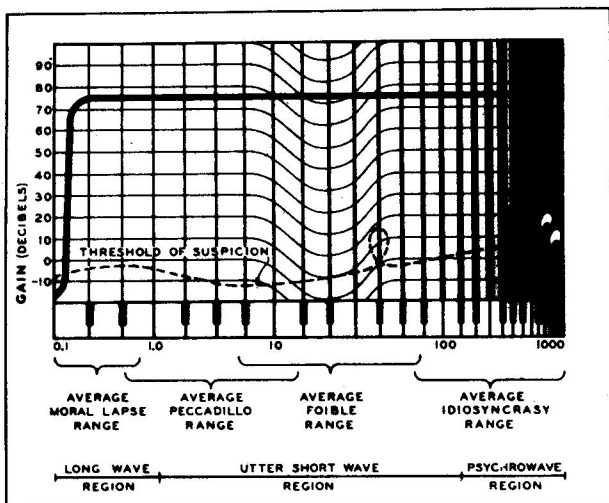

Fig. 3 A Characteristic Characteristic Curve
2.03 The idio frequency current is fed into a high gain idio amplifier where it is amplified up to a level well within the perception range of the most naive. The amplifier has a wide pass band, and Fig. 3 shows the flat response characteristic of the instrument. Its great range is crowded even in logarithmic coordinates. Part of the crowd showing on the plot, and largely hidden by a black mantissa over her head, is a poor old Spanish logarithm who got into the idiosyncrasy part of the spec-